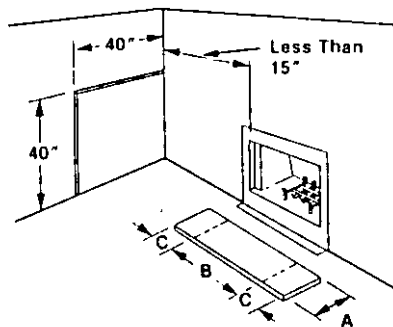

Figure 54
•The hearth extension must extend beyond the front and both sides of the fireplace opening per the dimensions in the chart accompanying (Figure 54). Use either the metal hearth extension (Model HE-36 for HC-3820, 33B and 38B) manufactured by Superior Fireplace Company, or a $\frac{1}{2}$ " thickness of millboard or a durable non-combustible material with equal or greater insulating value than $K = .84 \text{ BTU-IN./SQ. FT.-HR.-}^{\circ}\text{F.}$ These materials should be covered by a decorative noncombustible material.